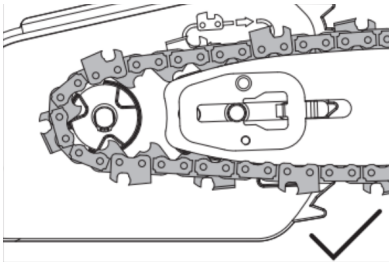
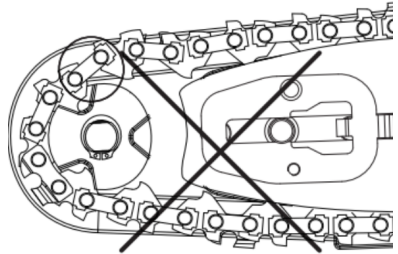

Fig. 5
Fig. 6
4. Assure all parts are seated properly and hold the chain and guide bar in a level position. Make sure the drive links are fully seated in the drive sprocket (Fig. 5), avoiding a kink as shown in (Fig. 6). If a kink occurs, pick up the chain at the guide bar just ahead of the kink and then pull it out.